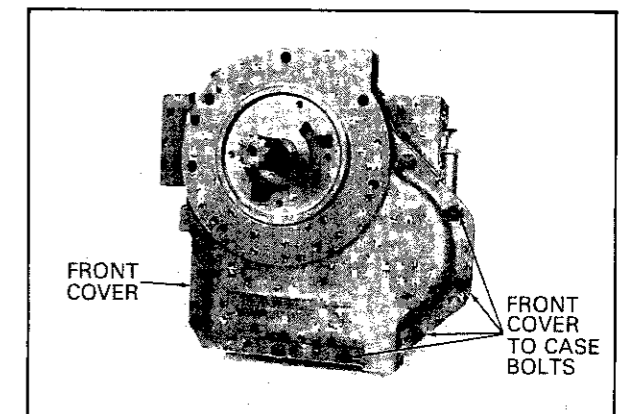

FIG. 46 FRONT COVER INSTALLATION
55. Lower the front cover against the face of the case. Insert and tighten the cover to case bolts to 36-41 pounds-feet (49-56 N·m) (Fig. 46). Check the end play of the input shaft to be certain it is from 0.000 to 0.004 inch (0.0-0.10 mm).